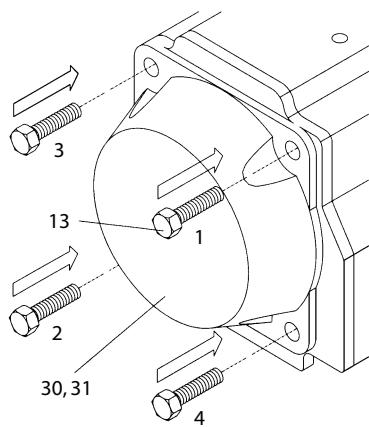

Figure 16
- B. Apply silicone grease to the end-cap o-ring seals, using the recommended o-ring-area grease listed in **(Table 2)**. Fit the end-cap o-ring seals (14) into the groove in each end cap (30,31).
- C. Fit the end caps (30, 31) onto the body (50), verifying that the o-ring seals (14) remain in the grooves.
- D. Insert all end-cap screws (13) and hand tighten. Complete tightening by following the sequence indicated in **(Figure 16)**.